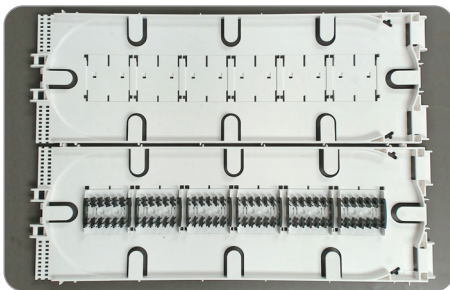

Figure 37
**Splice trays can be shipped empty, partially loaded or fully loaded and splice modules are field movable. (Figure 37)**